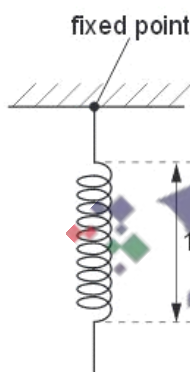

Fig. 4.1
- (c) A light spring of unextended length 14.2 cm is suspended vertically from a fixed point, as illustrated in Fig. 4.1.